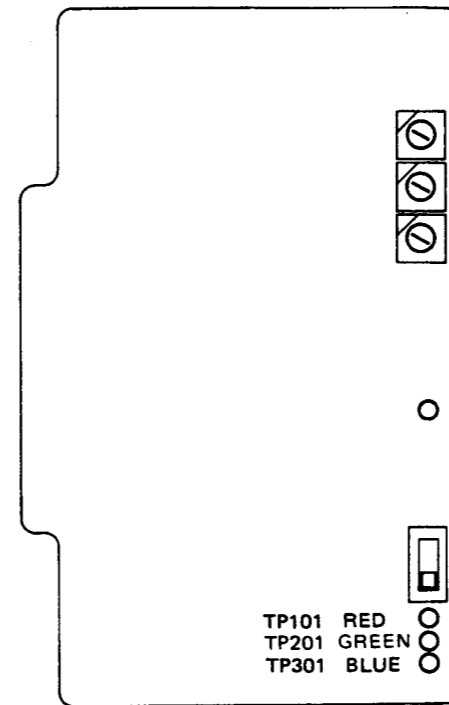

Fig. 3-5
16. Adjust RV401 of BA board so that the ① (100 IRE level) coincides with ② (100% white level) as shown in Fig. 3-5.
18. Adjust RV501 of BA board so that the ① (100 IRE level) coincides with ② (100% white level) as shown in Fig. 3-5.
20. Adjust RV601 of BA board so that the ① (100 IRE level) coincides with ② (100% white level) as shown in Fig. 3-5.